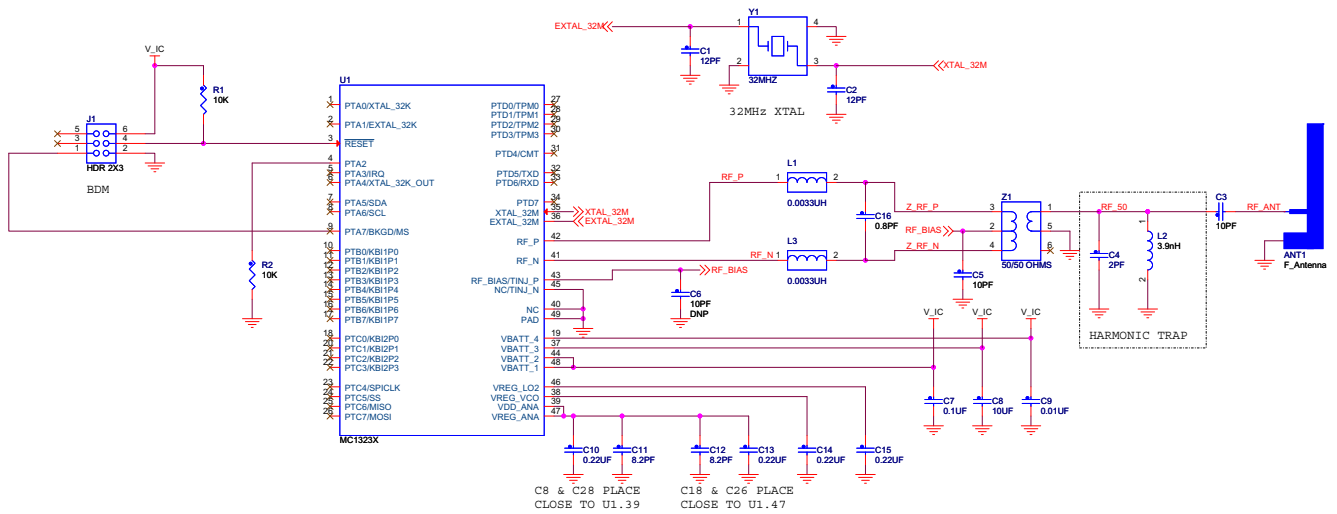

Figure 10. MC1323x Basic Applications Circuit
Figure 10 illustrates a basic applications circuit based on the 123x-MRB development board. Features of the circuit include:
- RF circuitry at 2.4 GHz is very dependent on board layout and component usage. Figure 10 shows a typical RF configuration, however component value and use can vary based on customer application.